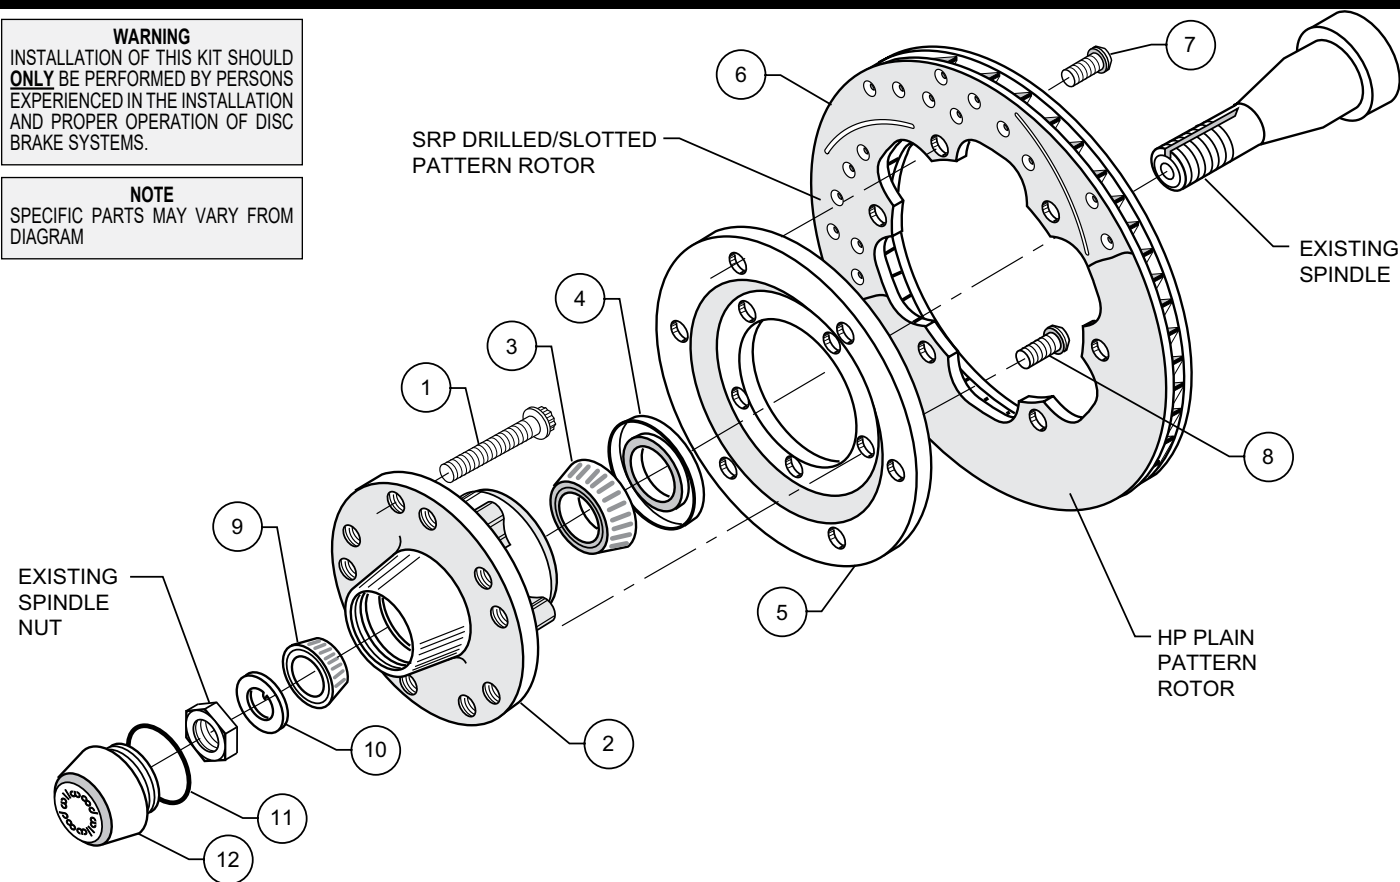

Figure 1. Typical Installation Configuration
NOTE: Numbers in parenthesis refer to the parts list and Figure 1 on the preceding pages.
- Install wheel studs (1) into the hub (2). Torque to 77 ft-lb. **NOTE:** There are two five lug patterns in the hub (5 x 4.50 and 5 x 4.75). Make sure of the correct hole pattern for the correct wheel application before installing studs into hub.
- Pack the large inner bearing cone (3) with high temperature disc brake bearing grease (available from your local auto parts store) and install into the backside of the hub (2).
- Install the grease seal (4) by pressing into the backside of the hub (2).
- Orient the rotor (6) and the rotor adapter (5) as shown in Figure 1. Attach the rotor to the adapter using bolts (7). Apply red *Loctite*® 271 to the bolt threads and torque to 25 ft-lb using a criss-cross pattern.
- Mount the adapter/rotor assembly (5/6) to the hub (2) using bolts (8), as shown in Figure 1. Apply red *Loctite*® 271 to the bolt threads and torque to 45 ft-lb using a criss-cross pattern.
- Pack the small outer bearing cone (9) with high temperature disc brake bearing grease and install into front of hub (2). Slide the hub/rotor assembly (2 and 6) with outer bearing cone onto the spindle. Secure using spindle washer (10), stock adjusting nut and nut locking device. Adjust bearings per Original Equipment Manufacturer (OEM) specifications.